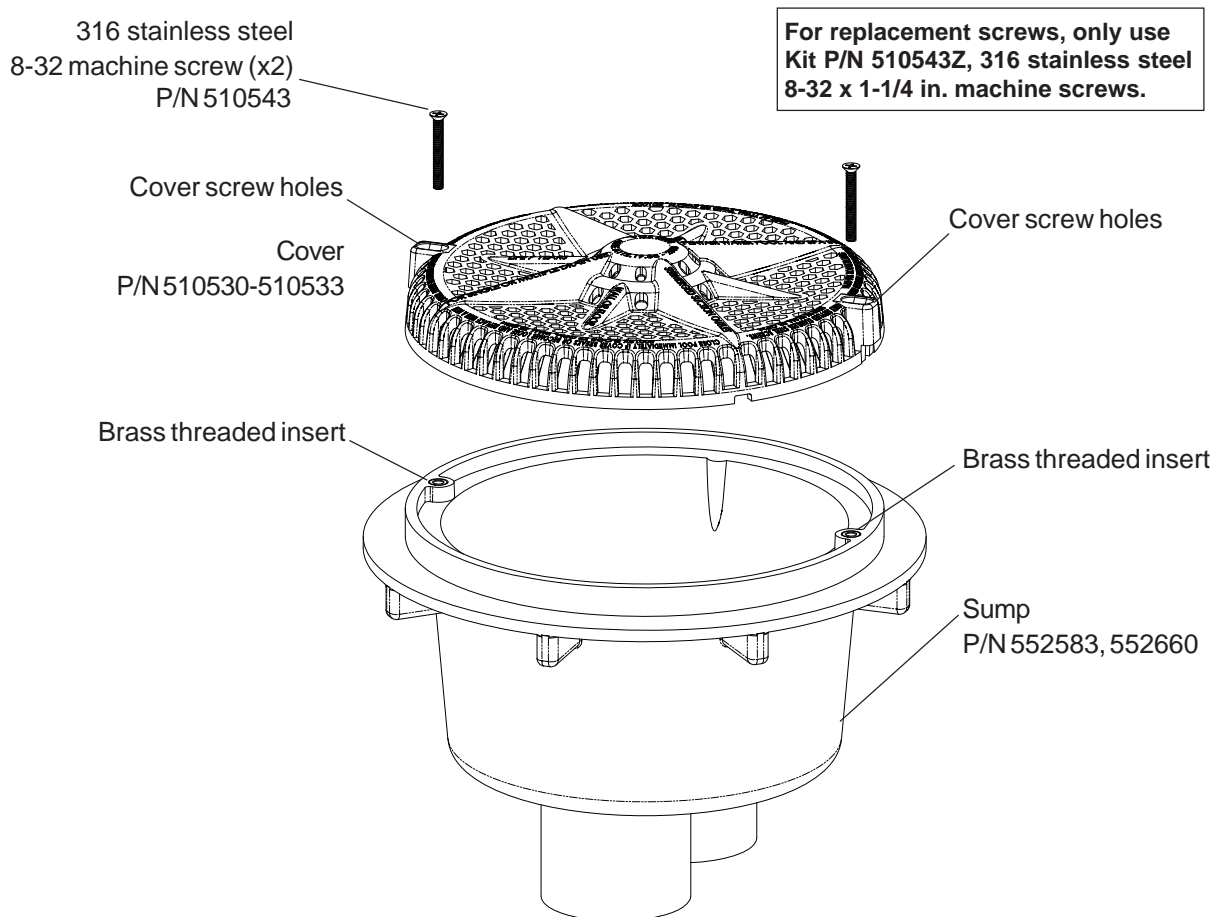

Figure 1
- Mount the drain cover on top of the sump (see Figure 1).
- Install the two (2) 316 stainless steel 8-32 machine screws (provided) into the holes in the top of the cover. Using a No. 2 Philips head screwdriver, tighten each retaining screw to a **torque value of 10.00 (minimum) to 15.0 (maximum) in/lbs** to secure the cover. **DO NOT OVER TIGHTEN THE SCREWS. DO NOT ASSEMBLE WITH POWER TOOLS.**